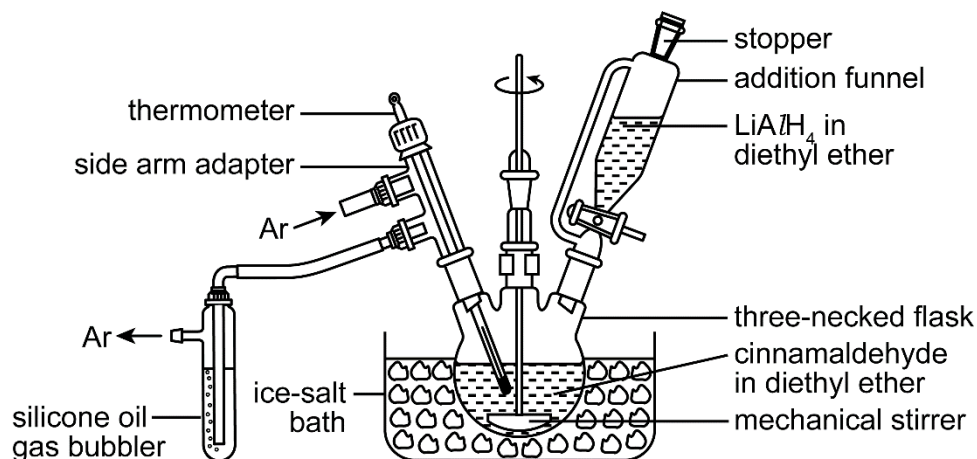

Fig. 4.2
1. Dry, in an oven, a three-necked flask, an addition funnel and a side arm adapter (see Fig. 4.2).
3. Set up the dried apparatus as in Fig. 4.2 with a solution of 10 g of cinnamaldehyde (0.0758 mol) in 25  $\text{cm}^3$  of dry diethyl ether in the flask.